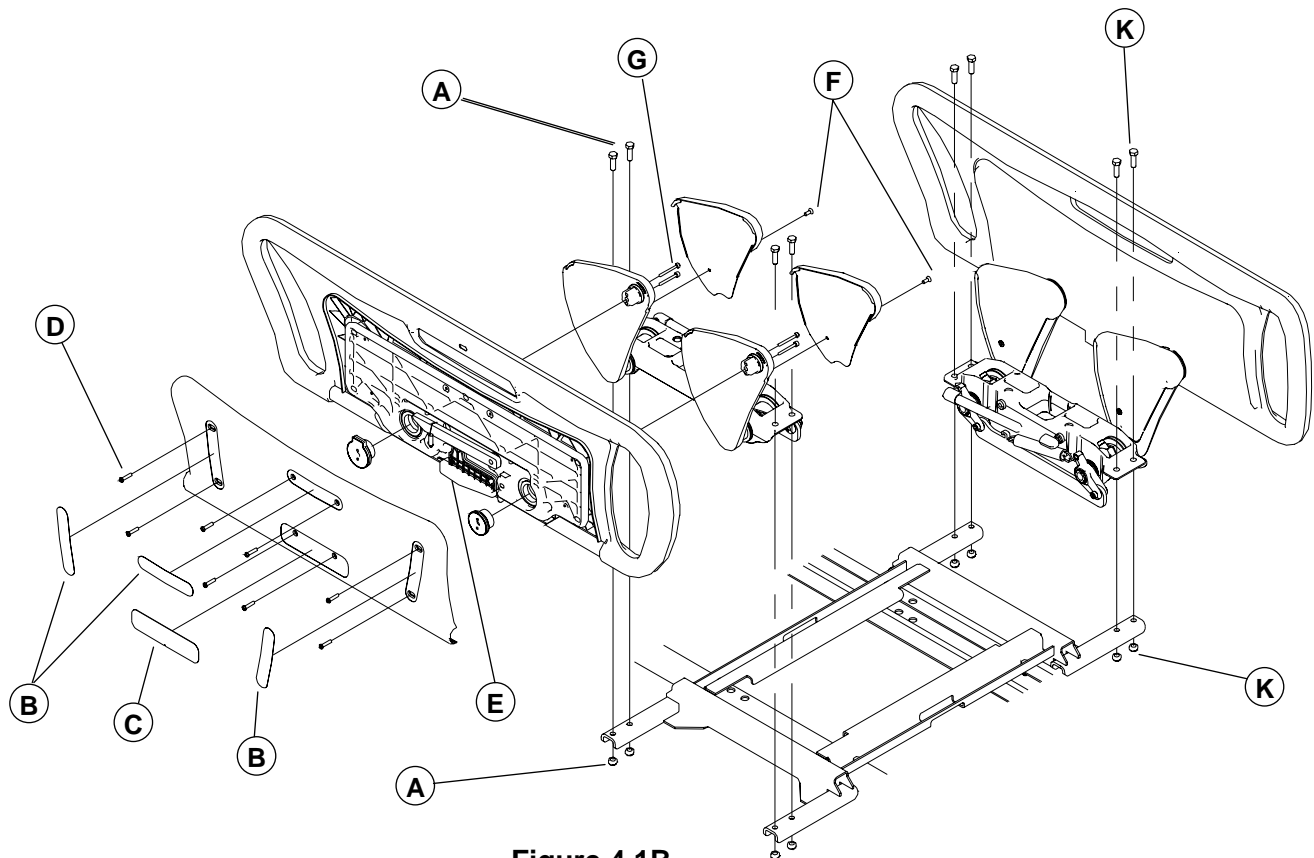

Figure 4.1B
Unless otherwise indicated, refer to figure 4.1B on page 19 for the illustration of this procedure reference points.
2. Using a 1/2" socket wrench and a 1/2" wrench, remove the four locknuts/bolts (K, fig. 4.1B, page 19) holding the mechanism assembly to the support and remove the assembly.